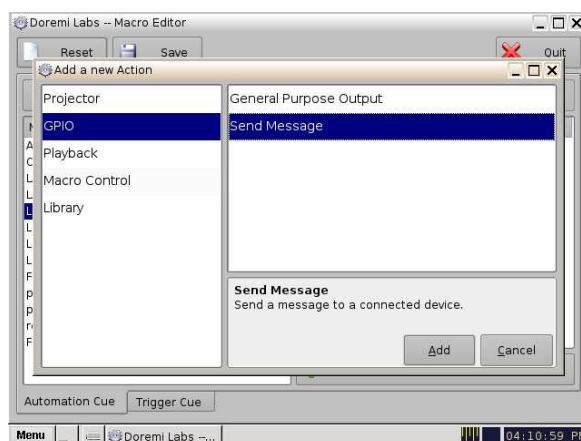

Figure 8.3.2B
3. Select “GPIO / Send Message” and click on “Add”. See **figure 8.3.2B**.